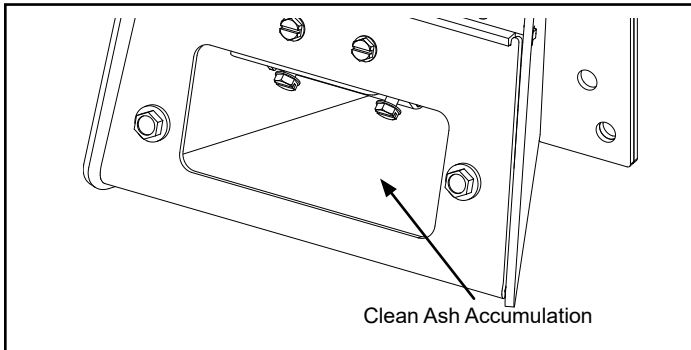

Figure 2.5
- Lift off the clean-out cover to open the bottom clean-out chamber. Figure 2.5